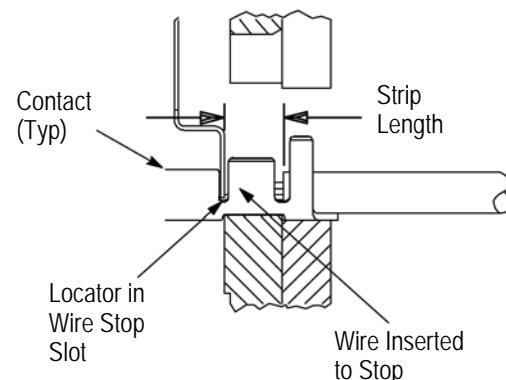

Figure 3
#### 4. CONTACT SUPPORT ADJUSTMENT (Figure 3)
*Refer to the table in Figure 1 and select wire of the specified size and insulation diameter. Strip the wire to the length indicated in Figure 1, taking care not to nick or cut wire strands. Select an applicable contact and identify the appropriate crimp section according to the wire size markings on the tool. Refer to Figure 3 and proceed as follows:*
3. Position the contact so that the mating end of the contact is on the locator side of the tool, and so that the open "U" of the wire and insulation barrels must face the top of the tool. Place the contact up into the nest so that the movable locator drops into the slot in the contact. Refer to Figure 3. Butt the front end of the wire barrel against the movable locator.
5. Insert stripped wire into contact insulation and wire barrels until it is butted against the wire stop, as shown in Figure 3.
*The crimped contact may stick in the crimping area, but the contact can be easily removed by pushing downward on the top of the locator (see Figure 3)*